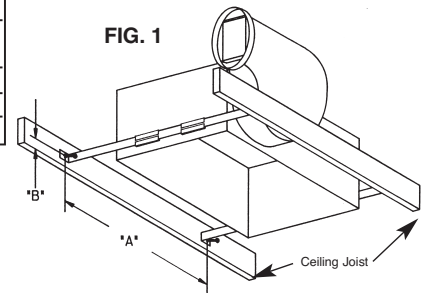

FIG. 3
3. Run four inch round duct from ventilator air discharge outlet to wall cap or roof cap. (See Fig. 3)